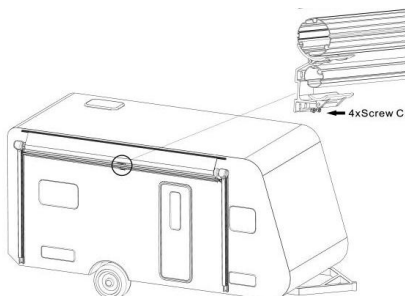

Figure C28
3.11 If the B2CE has a support bracket, install it in the middle of the vehicle under the awning so that it can support both roller tubes when the awning is retracted. (Figure C28)